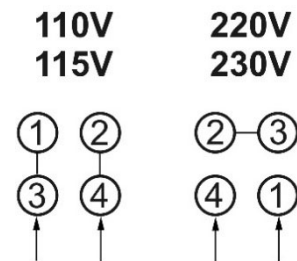

Figure 6-2: voltage conversion
1. Open main motor junction box cover, and change leads based on wiring diagram inside cover. This diagram is also shown in Figure 6-2. (NOTE: In case of discrepancy, diagram on machine takes precedence.) Reinstall cover.
3. (**Model HVBS-10DMWC only:** Remove coolant pump junction box cover, and change incoming leads for coolant pump, based on diagram shown in Figure 6-2. Reinstall cover.)